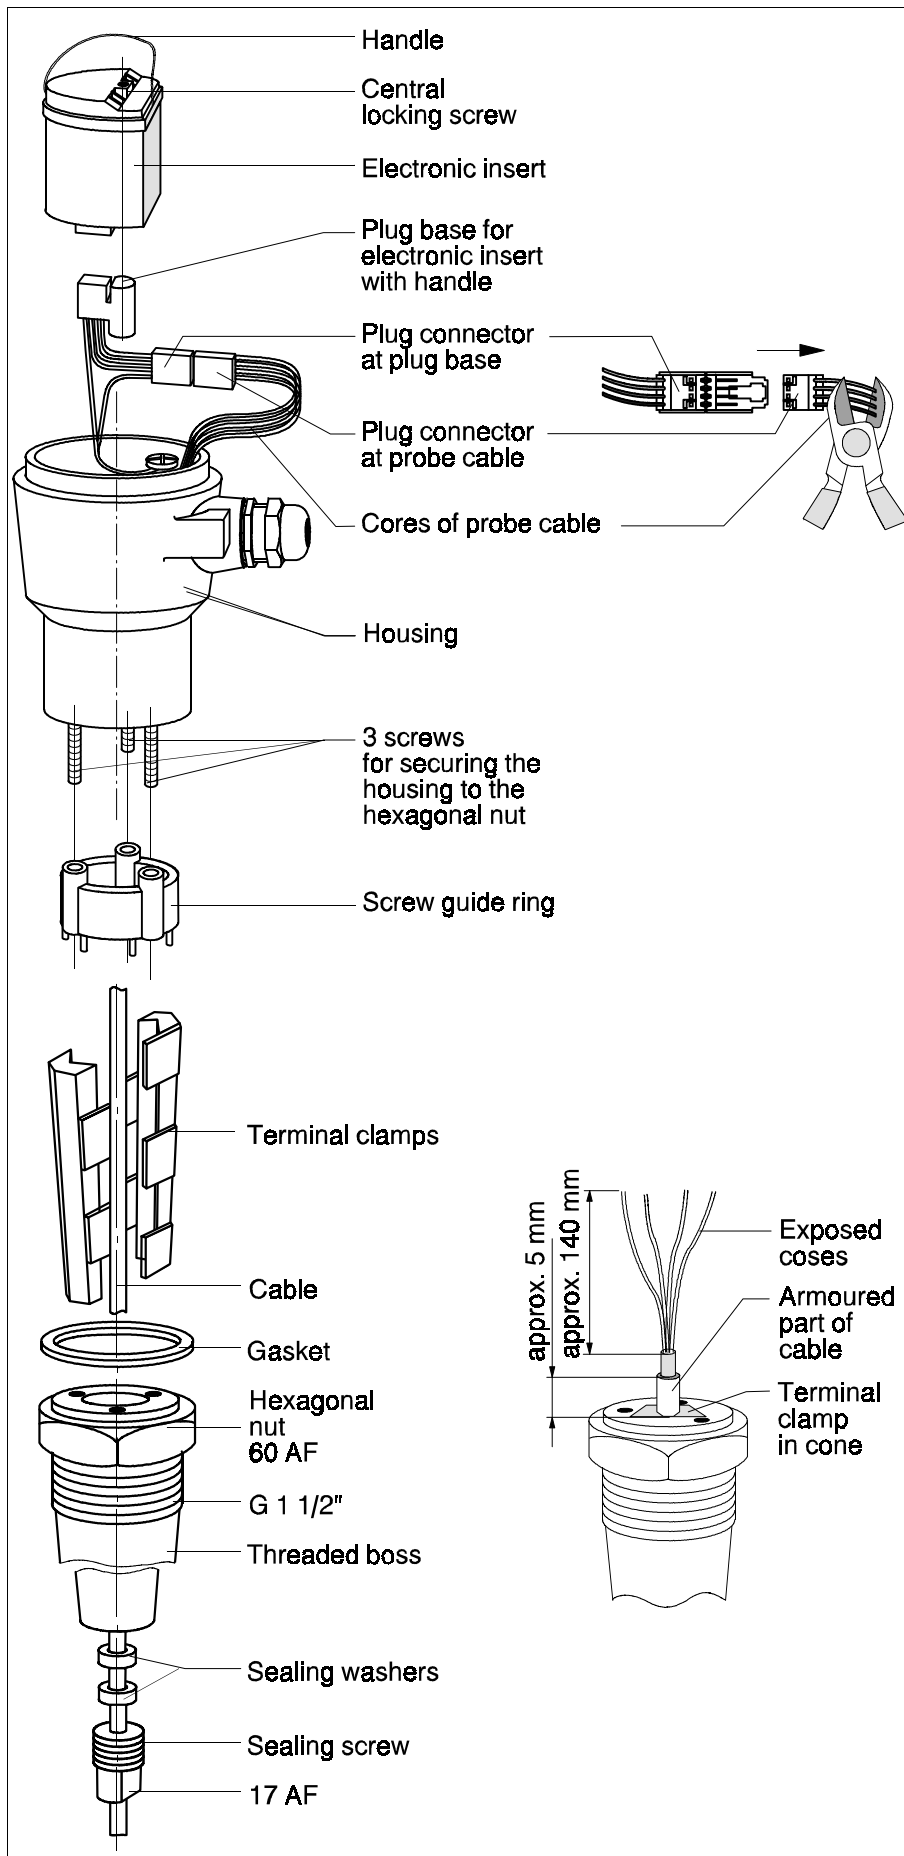

Fig. 22
- Cut off the plug connector from the probe cable cores. See Fig. 22 above right.
- Put the terminal clamps around the cable and place in the cone **tightly**. The cable with its armouring should now protrude approx. 5 mm above the terminal clamps. See Fig. 22 below right.